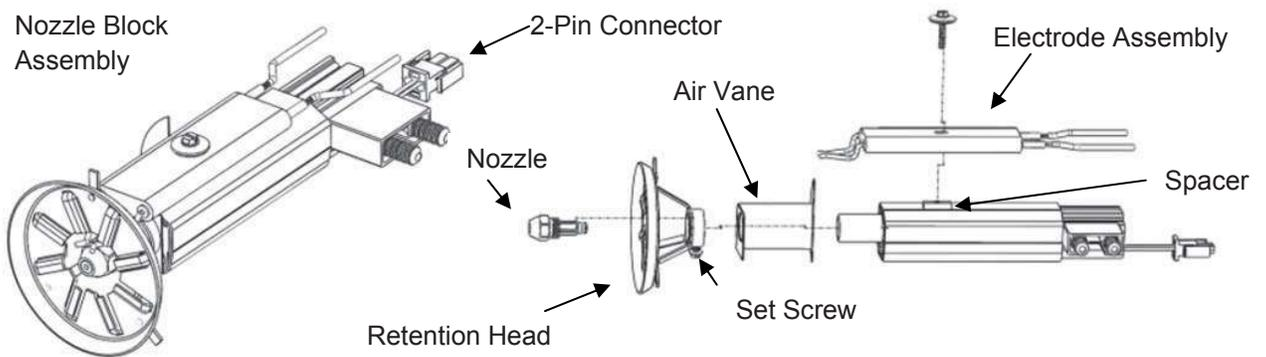

Figure 56 Disassemble Nozzle Block
20. Refer to the following section (9.5.6) for Flame Retention Head and Electrode Settings and reassemble the Nozzle Line Assembly. **CAUTION** Be sure to re-install the air vane (shown in figure 56) in the proper location – opposite side of bulkhead fitting). Failure to install this component properly will result in an off-center flame, which may damage the heat exchanger and void the heat exchanger warranty.